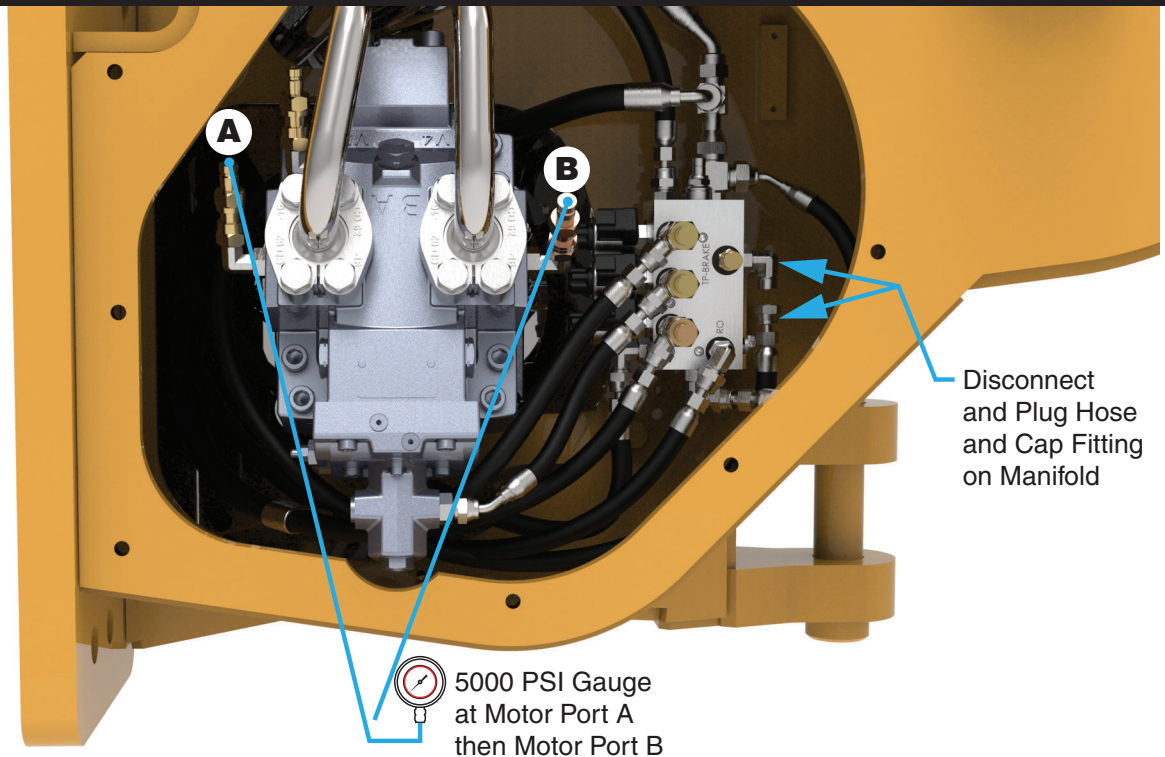

Figure 3-11 Motor Supply Pressure Check (E465 shown)
2. Find the brake release hose on the control manifold. Most installations will have that hose connected to the "BRAKE" port on the right side of the manifold, as shown in Figure 3-11.